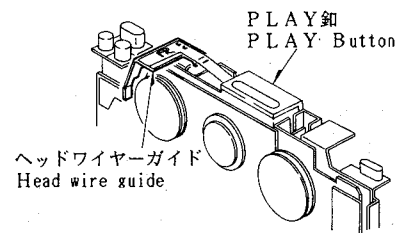

Fig. 4
4) Remove the head wire guide. (See Figure 4) (It is fitted in by the tab. Remove it using a flat head screwdriver.)